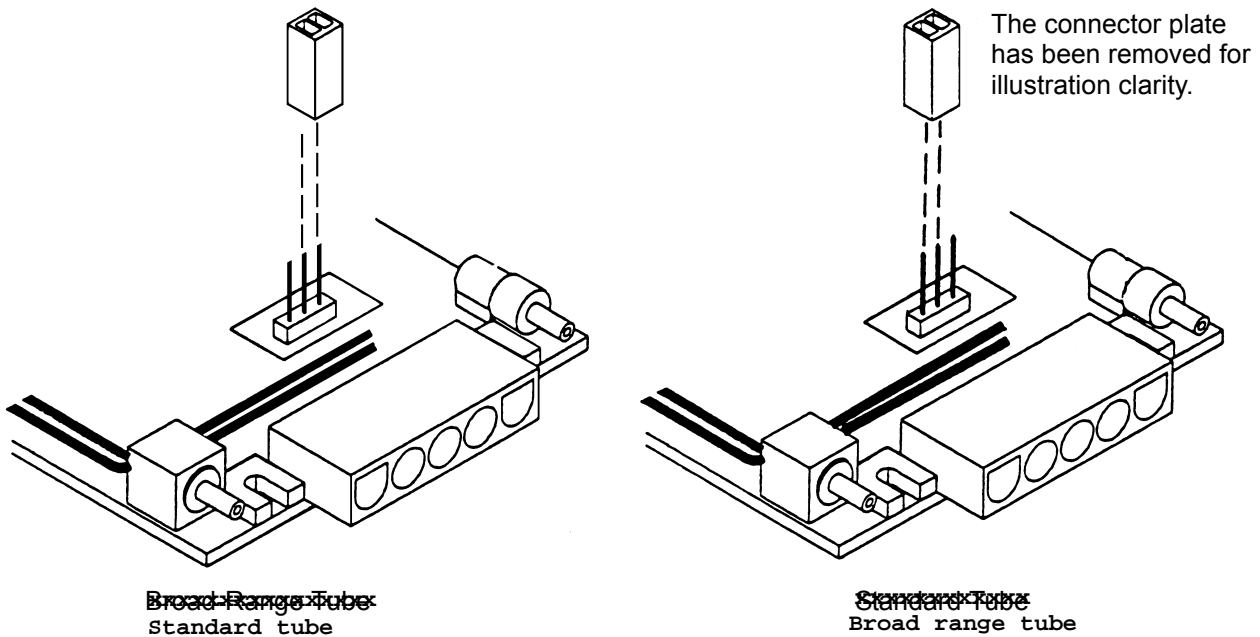

Figure D-2 Jumper Positions
- ❑ To operate a Standard Bayard/Alpert tube (563, 571, or 572), position the jumper as shown in Figure D-2 (left). The jumper is set at the factory to the standard Bayard/Alpert tube position.
- ❑ To operate a Broad range Bayard/Alpert tube (564 or 580), position the jumper as shown in Figure D-2 (right).